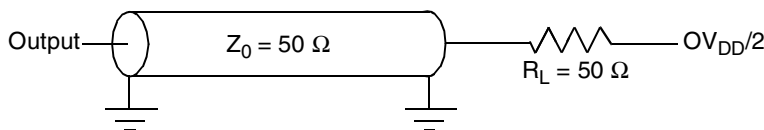

Figure 13. Alternate AC Test Load for the JTAG Interface
1. All outputs are measured from the midpoint voltage of the falling/rising edge of TCLK to the midpoint of the signal in question. The output timings are measured at the pins. All output timings assume a purely resistive 50-Ω load (see Figure 13). Time-of-flight delays must be added for trace lengths, vias, and connectors in the system.
Figure 13 provides the AC test load for TDO and the boundary-scan outputs of the MPC7455.